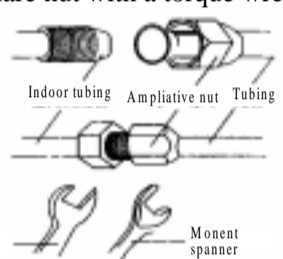

Fig.13
- Tighten flare nut with a torque wrench till kluck is heard. (Fig.13)